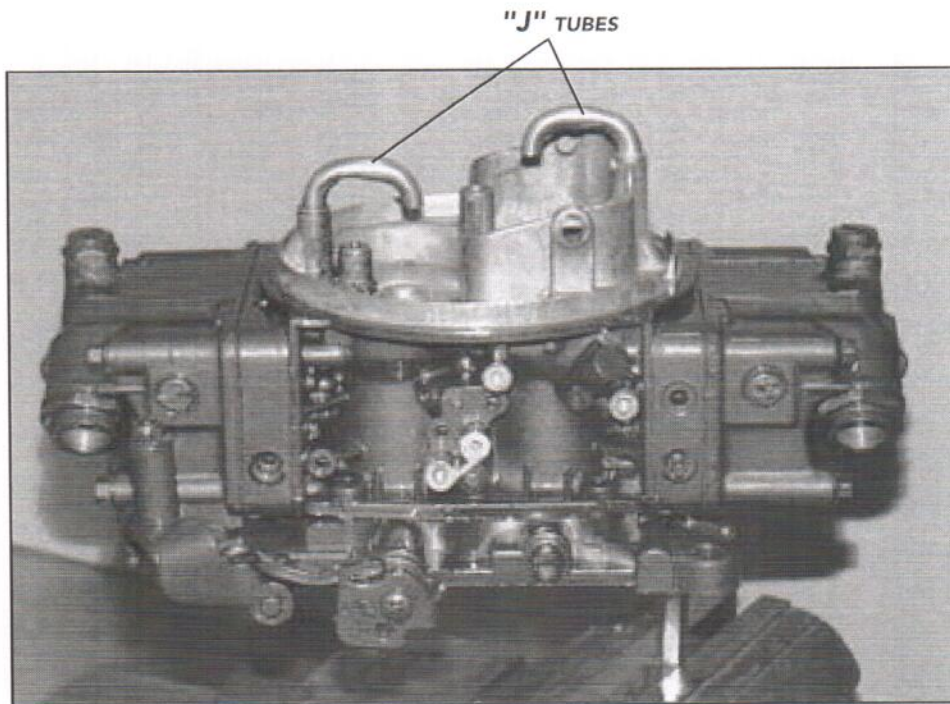

FIGURE F2
4. If your carburetor is not marine equipped, remove the straight (automotive type) bowl vent tubes with pliers, and install the supplied "J" shaped vent tubes in their place (refer to figure F2). Tap the tubes into place with a hammer (they should fit tightly, but care should be taken to avoid denting of the tubes).